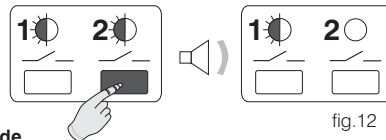

fig.12
- Hold down **2/—** key until a single acoustic signal sounds, then release it. **LED 2** is off and **channel 2** is independent of the “**Master**” chronothermostat (fig. 12).